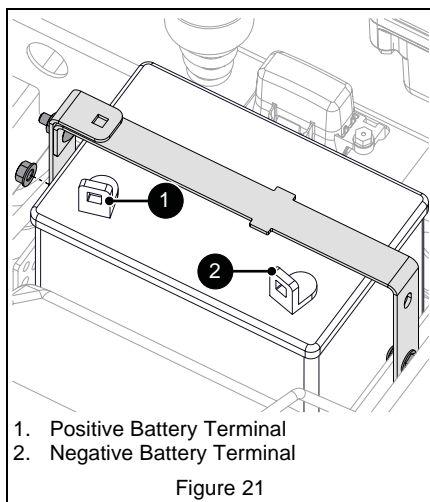

Figure 21
4. Install battery bracket over battery and onto bolts in battery tray. Secure with two flange nuts. See Figure 21.